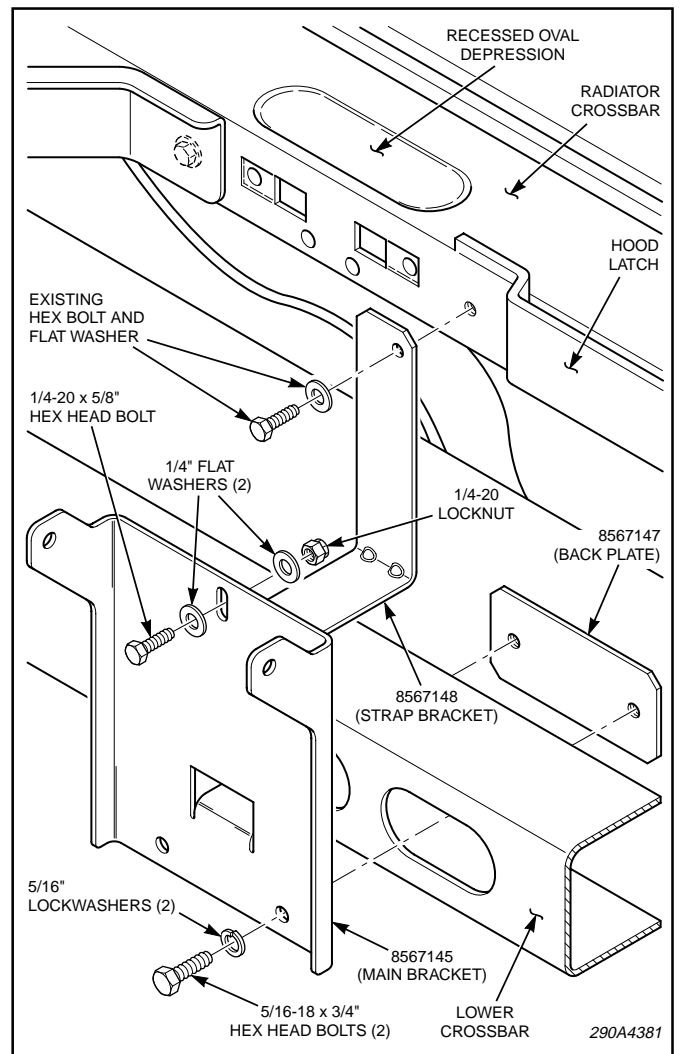

Figure 2.
3. See figure 2 and proceed as follows: